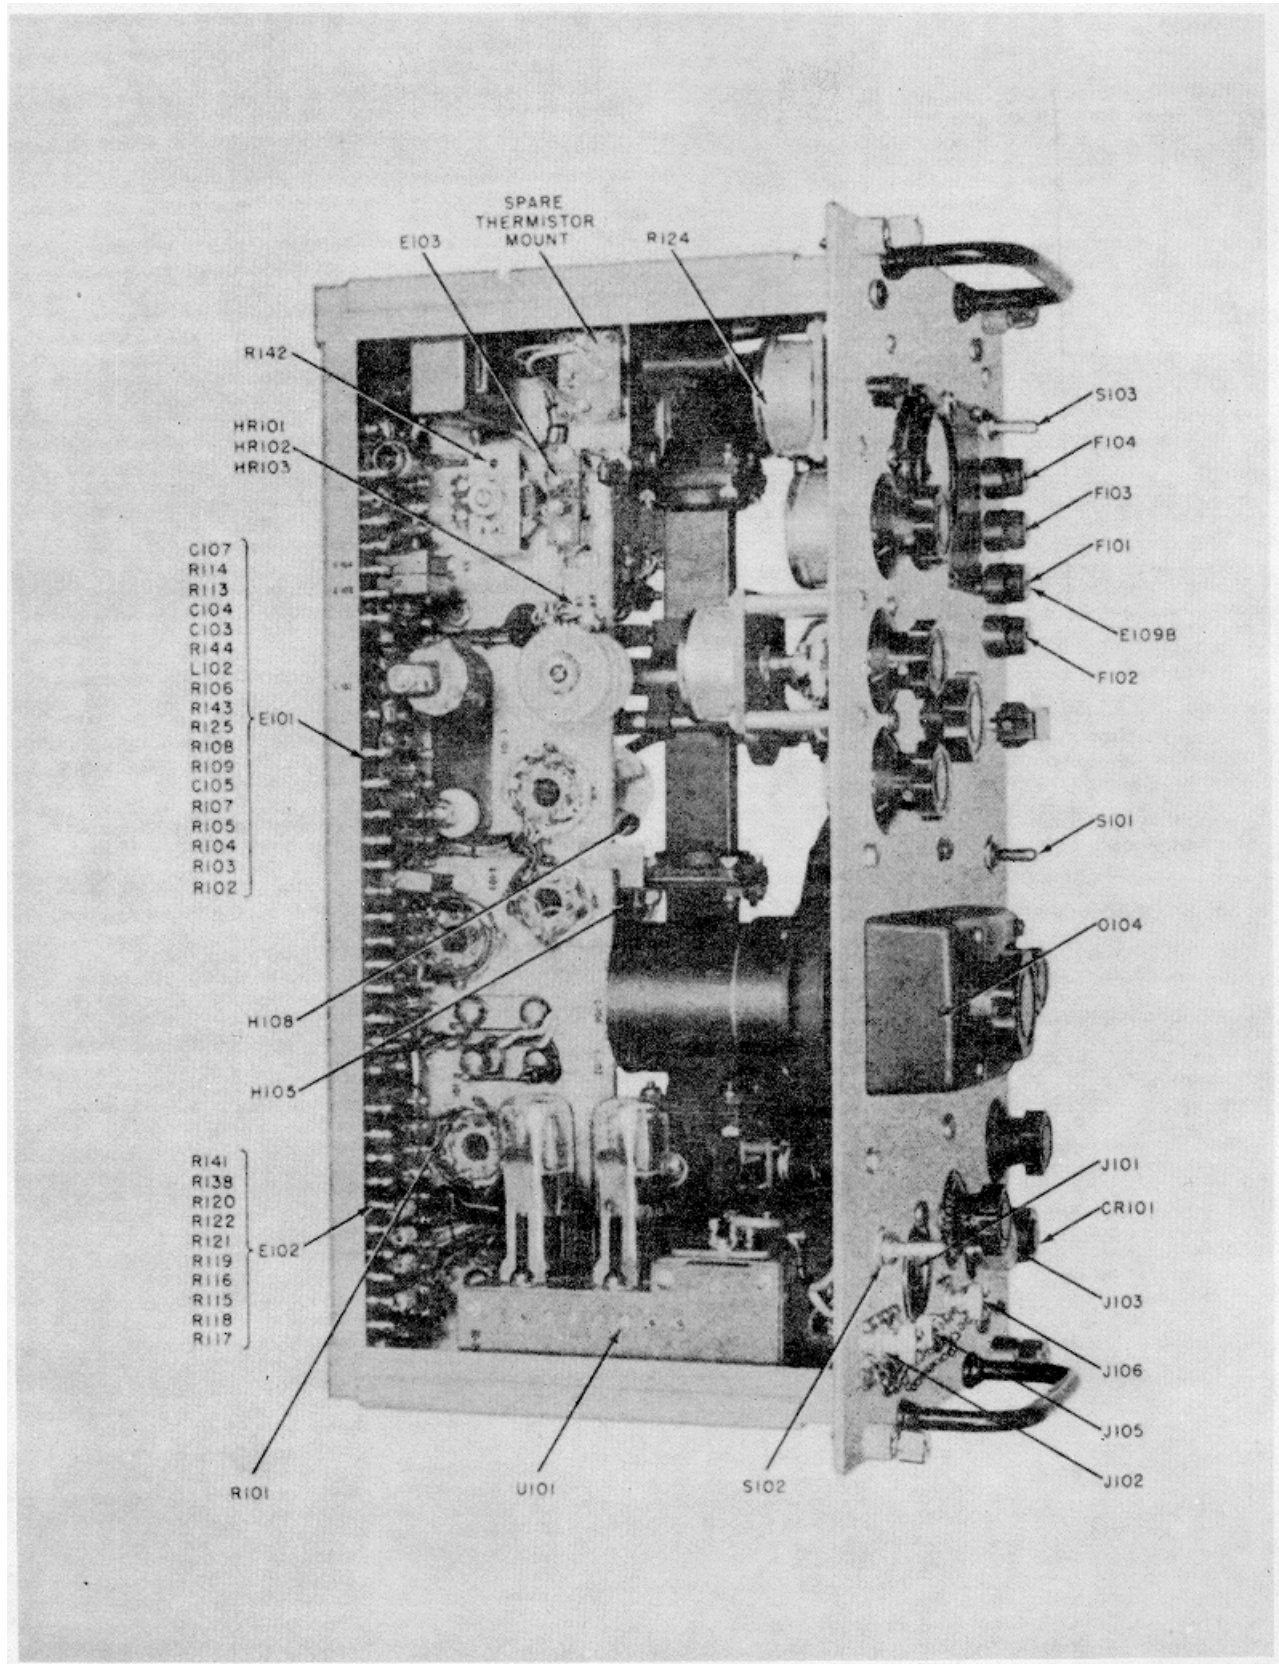

Figure 5-10. Test Set Chassis Bottom-Front View
(1) The purpose of this control is to produce linearity in the slope of the sawtooth sweep wave for the klystron oscillator (V104). It is shown in figure 5-10 and is mounted underneath the power transformer. It has been preset at the factory while checking the linearity on a synchroscope and secured in that position with brown cement. It will never require adjustment unless inductance L102, capacitor C114 (wiring capacity to ground) or both are changed. Under normal conditions, the tolerances are such that even though the inductance L102 is replaced, no readjustment need be made in the setting of R142. The method follows however if the sawtooth sweep must be adjusted for linearity: